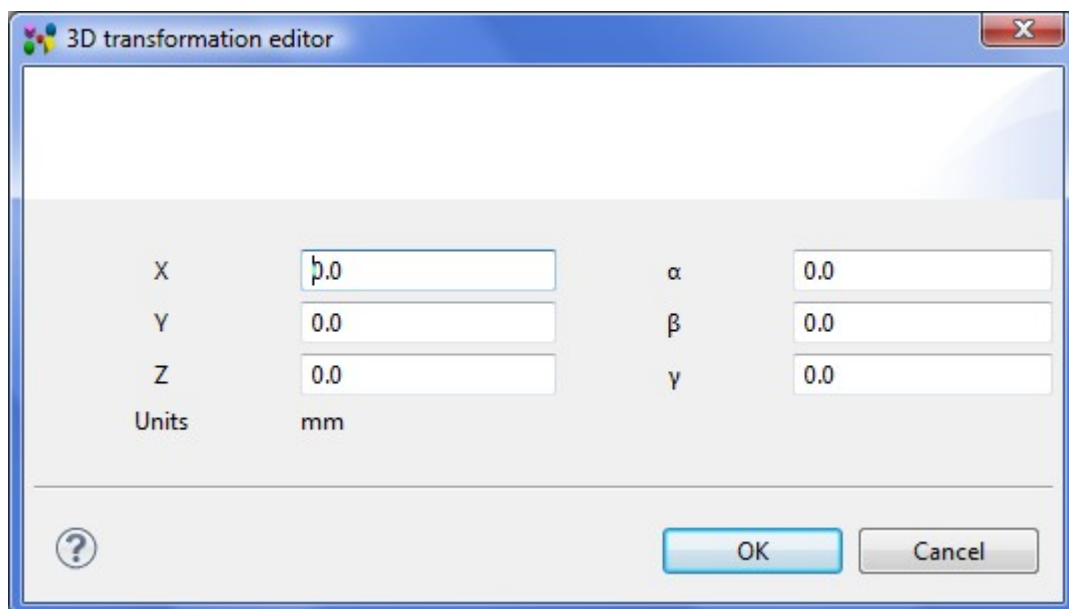

Figure 4. 3D transformation editor wizard page
- Enter transformation data. Double click on the Transformation column cell. The 3D transformation editor wizard page appears on the screen (see Figure 4):